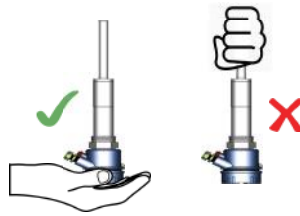

Figure 4: Instrument Handling
- When handling vibrating rod, do not lift them using their rod. Please see Figure 4.